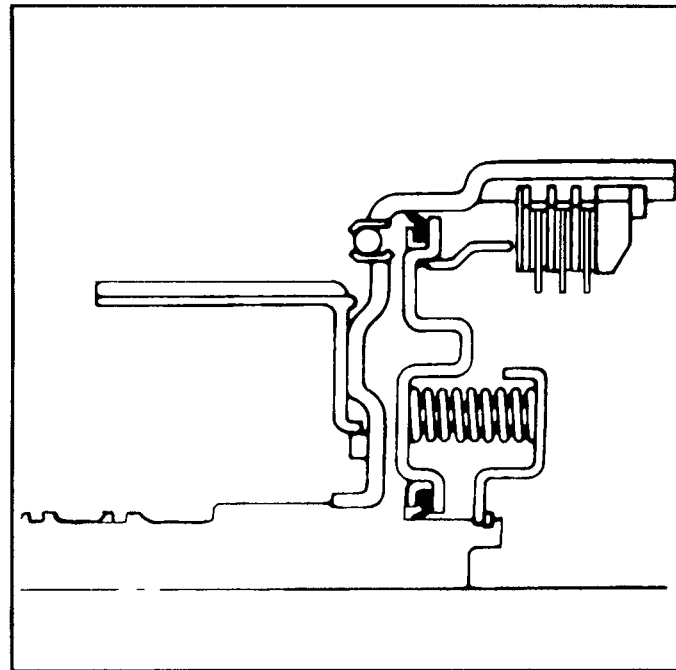

Figure 85
4. Install new inner and outer lip seals onto forward clutch piston with the lips facing away from the spring retainer, as shown in Figure 85, and lube with a small amount of "Trans-Jel".
12. Install the forward clutch backing plate with inside bevel facing up, as shown in Figure 85.